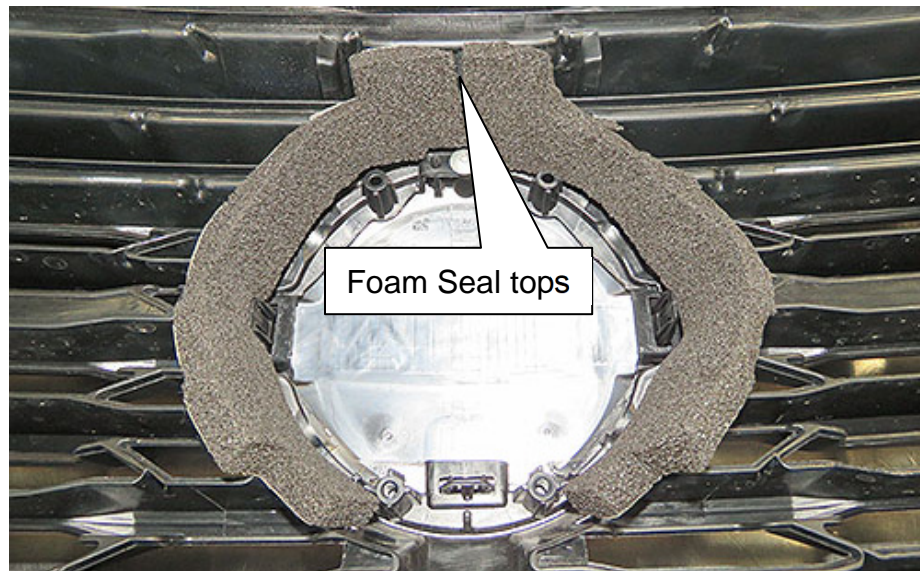

Figure 8
- Both Foam Seals must seal against each other at the top.**HINT:** Figure 8 shows both Foam Seals installed.